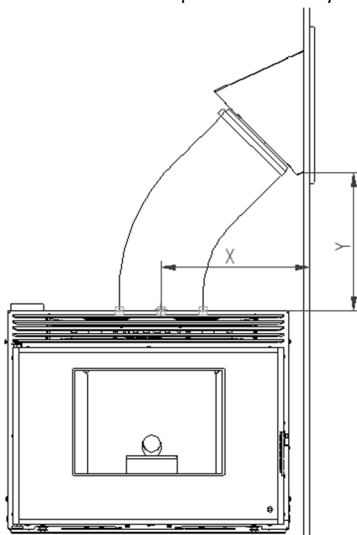

Figure 16 - Feeding system installation
- The position of the loading system has to maintain a ratio where X is always less than $Y = X \times 0,7$ (Figure 16), so that we can ensure that the slope is sufficient so that the pellets are not trapped in the tube connecting the loading mouth with the top of the insert structure. The